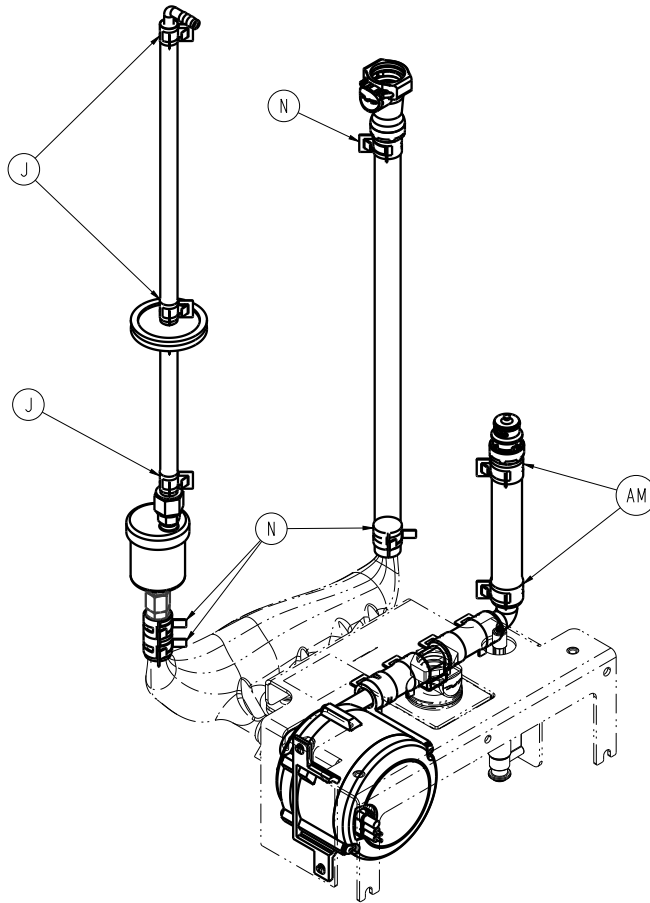

Figure 16 – Fluid assembly bracket
- Using needle nose pliers, remove the two hose clamps (N) that secure the tubing to the reservoir (Figure 16). Save the clamps.